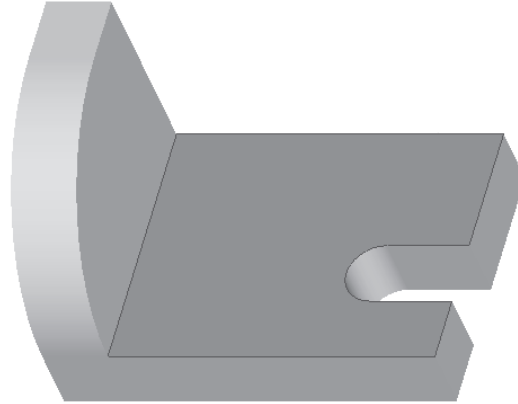

Figure 5-82 Face selected to be at the top
5. Select the top face shown in Figure 5-82 and then select the **Top** option from the **Orientation** drop-down list. Now, the top face of the base feature is selected to be at the top while drawing the sketch.